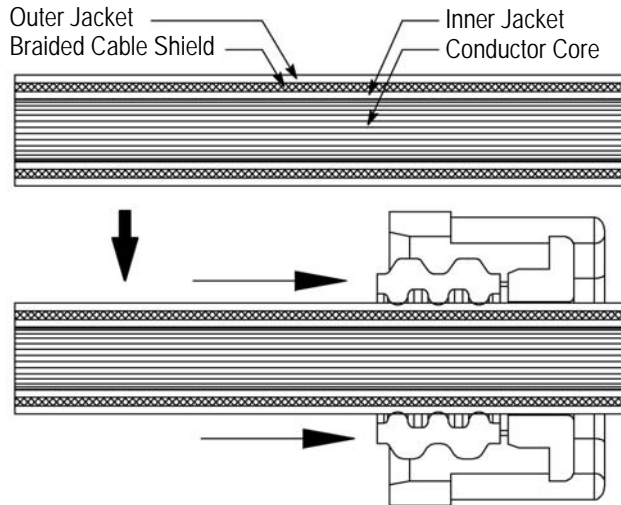

Figure 2
1. Slide cable seal retainer 1587525-[ ] first, then the cable seal 1587530-[ ] onto the cable 1587669-[ ] as shown in Figure 2.